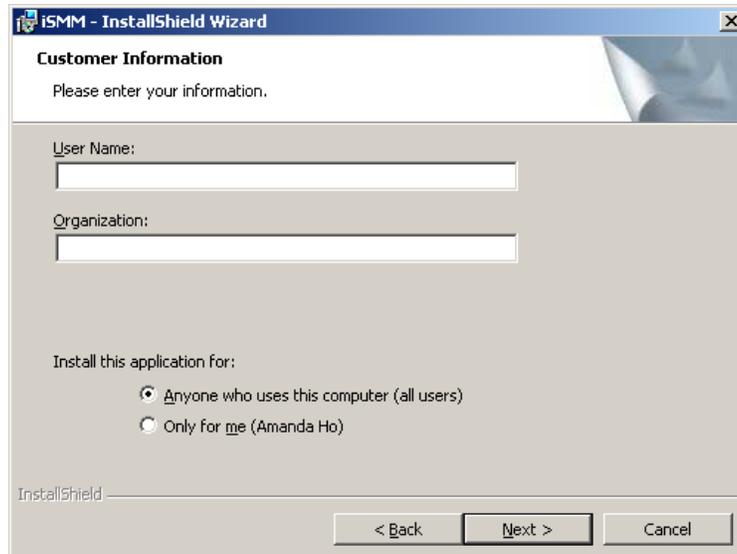

Figure 7-2: iSMM Installation Customer Information
Step 5: The customer information in **Figure 7-2** appears.